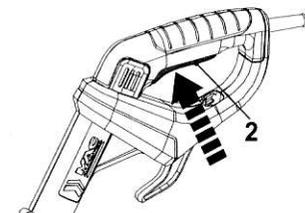

Fig. 13
1. Hold the product with one hand at the auxiliary handle (15) and with the other at the main handle (1).
2. Squeeze the on/off switch (2) to switch the product on (Fig. 13).
3. Release the on/off switch (2) to switch the product off.